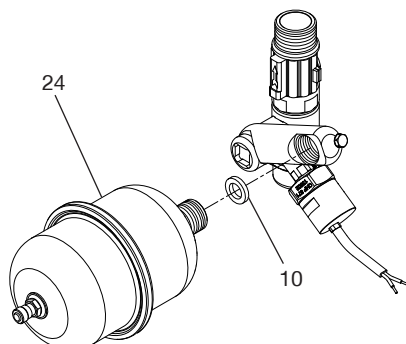

Fig. 41
- Remove rubber washer from manifold body (Fig. 41).